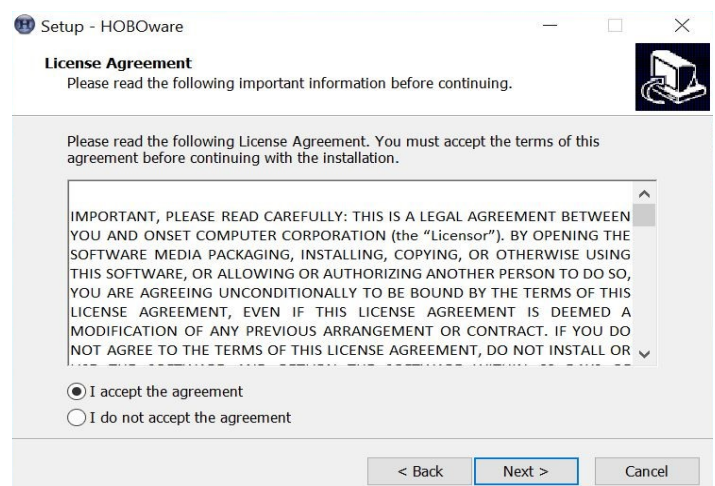

Figure 13. Software License Agreement
3. Figure 13 shows the software license agreement. Click “I accept the agreement”, and click NEXT to continue (Fig. 13).